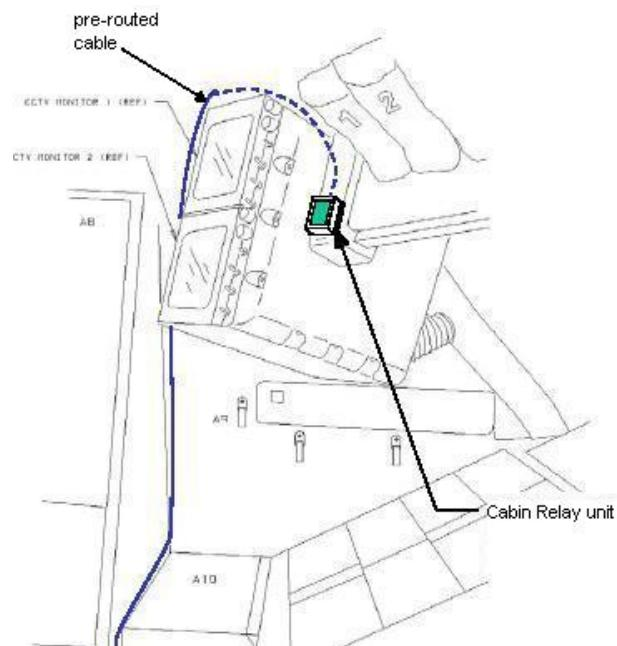

Figure 8-3.- Aft PORT location.
- A4 Connect to J1 on Cabin Relay Unit S/N 1728 and secure to PORT side of aft cabin with Velcro (see fig 8-3)